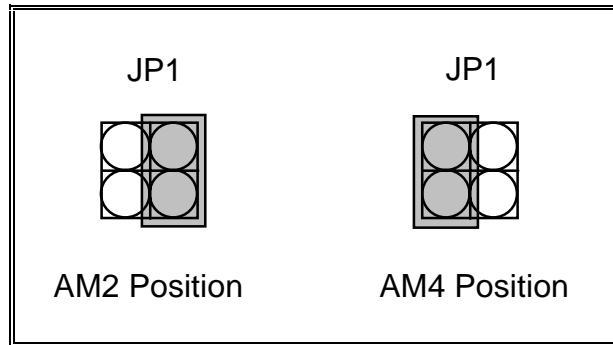

Figure 3: Jumper positions for JP1
To select the appropriate address modifier codes, install or remove jumpers on JP1. Jumpers on JP1 must only be installed vertically, when viewing the board with the VME connector, P1, at the top, in positions AM2 or AM4. Figure 3 details these positions and orientations. Any other orientation is invalid and may cause unpredictable operation. Address modifier (AM) codes are selected according to Table 1. The default configuration will respond to AM codes 3D or 39, standard supervisory or non-privileged data access (memory space).